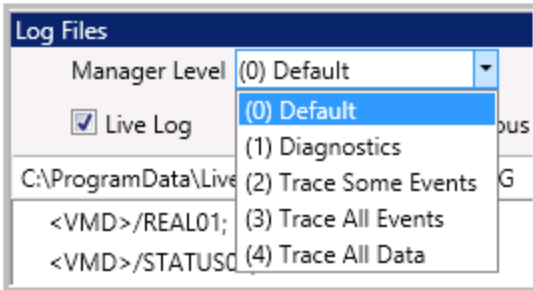

Figure 38: Manager Level Drop-Down List
The manager level groups information from the upper protocol layers: Session, Presentation, and ACSE. You can specify the amount of information that you would like to receive from least to most by selecting (0) Default, (1) Diagnostics, (2) Trace Some Events, (3) Trace All Events, and (4) Trace All Data from the Manager Level drop-down list (see Figure 38).
You can stop and start the Live Log by unchecking the checkbox next to Live Log label, which is below the Manager Level label in Figure 38.